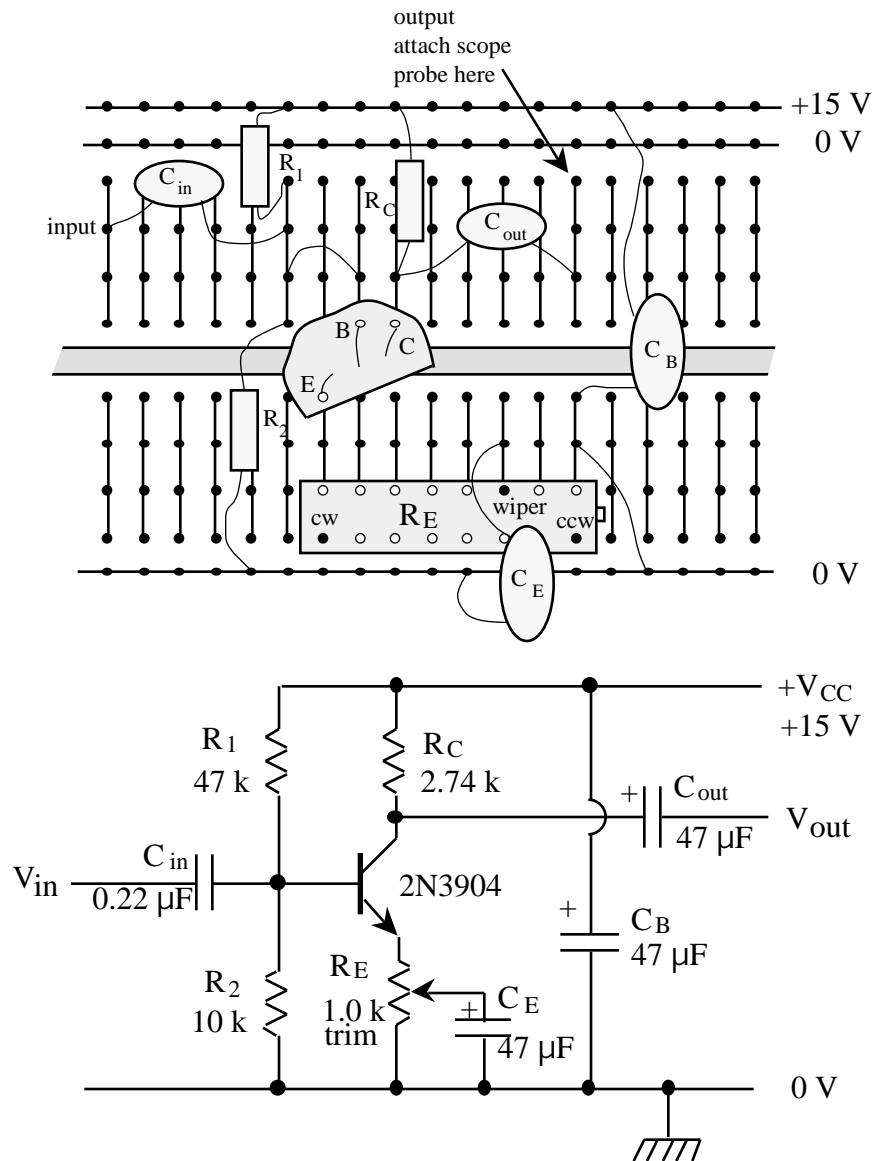

Figure 7.4 Common Emitter Stage Layout and Schematic
1. Calculate the quiescent voltages V_B , V_E , and V_C , and the currents I_E and I_C for the common emitter circuit in Figure 7.4. How much power is dissipated in the transistor itself? Is the power safely below P_{max} ? (See Appendix for 2N3904 Data Sheet.)
2. Find the ac voltage gain of the circuit in Figure 7.4 for 10 kHz sine waves with the emitter bypass capacitor C_E removed. Estimate the maximum amplitude of the output before clipping occurs. (The maximum output voltage is limited by the positive supply voltage, and the minimum is determined by the requirement that the collector voltage must be at least a few tenths of a volt above the emitter voltage.)
3. The emitter bypass capacitor can provide an AC ground path for the emitter, increasing the gain of the amplifier at high frequency. Considering the effects of the intrinsic emitter resistance r_e , what is the maximum possible AC voltage gain of the amplifier in Figure 7.4? Will this gain likely be realized for 10 kHz sine waves? Why or why not?
4. What setting of the emitter trimpot is needed to give the required gain of -25 ? For the single stage in Figure 7.4, what are the input and output impedances r_{in} and r_{out} at 10 kHz
In Figure 7.4 we show the first amplifier stage and a suggested circuit board layout. Your circuit will be easier to understand if you try to keep the physical layout looking like the schematic diagram. Use the wiring color code given in Experiment #4.
The first step is to construct the bias network and check that the correct dc levels (quiescent voltages) are established. Assemble the common emitter stage as shown in Figure 7.4, but without the input and output coupling capacitors or the emitter capacitor (without C_{in} , C_{out} , and C_E). The wiper contact on the emitter resistor R_E should not be connected to anything yet. Measure the resistors before putting them in the circuit, and if they differ from the values used in your calculations, recalculate the quiescent voltages. Before turning on the power, disconnect the power supply from the circuit board for a moment and check that it is set to +15 V. Then turn on the power, and check the dc levels V_B (at the transistor base), V_E (at the emitter) and V_C (at the collector).